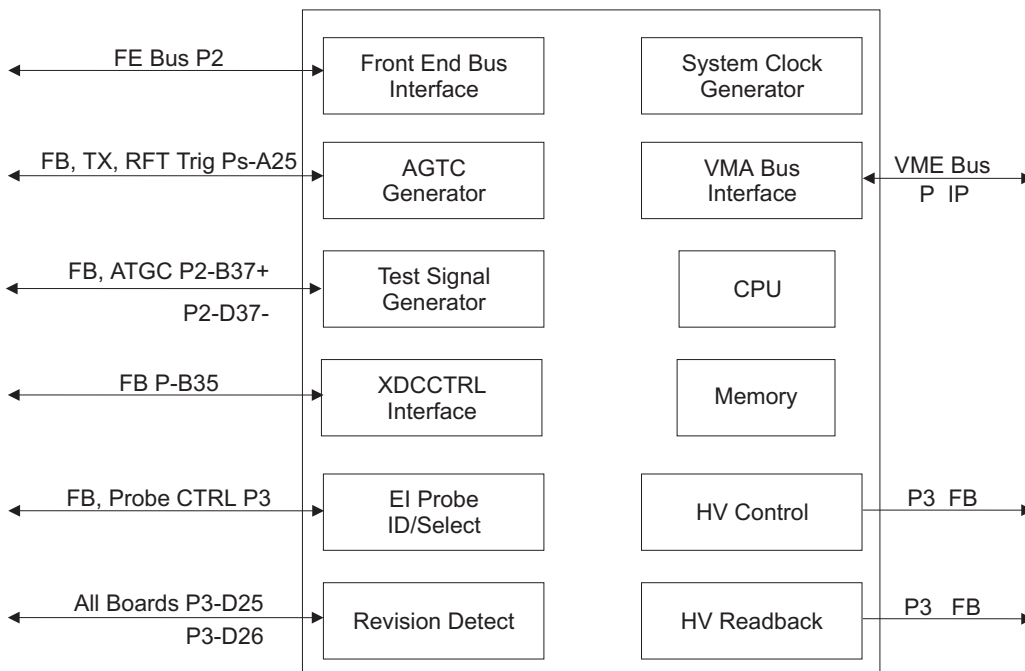

Figure 5-1: Front End Controller Block Diagram
- Systems with **RFI Configuration** - see Figure 5-1 on page 5-8.